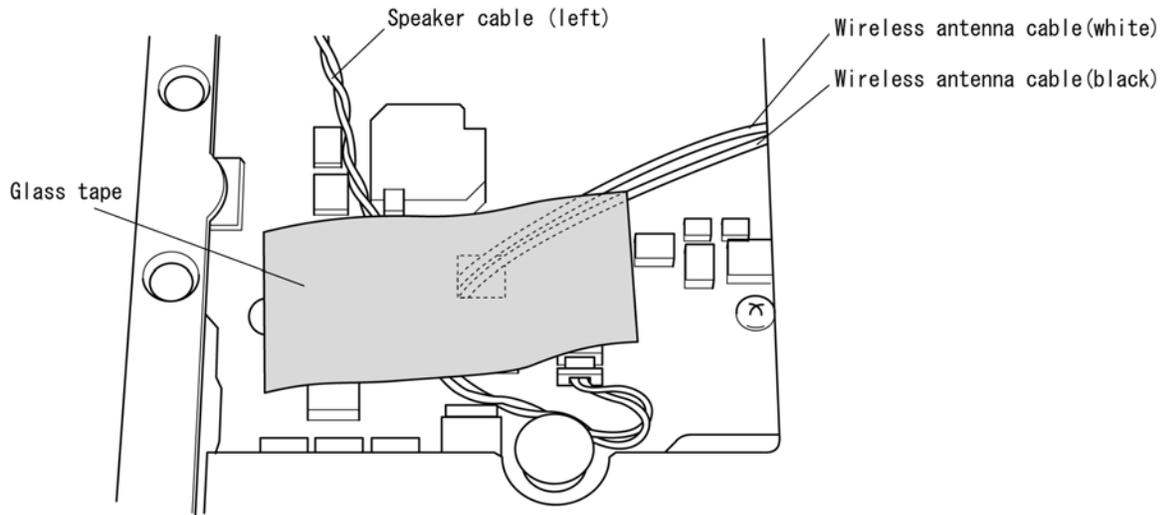

Figure 4-31 Route the Left Speaker cable
**CAUTION:** Be careful to route the cable so that the Top cover will not pinch it. Make sure it lies between the two chips. Refer to Figure 4-31.